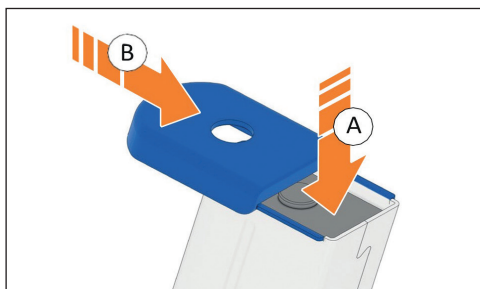

Figure 37 – Insert magazine floor plate
4. Push in magazine locking plate and hold it (A) (Fig. 37).
5. Slide magazine floor plate onto magazine housing (B) from the front until the magazine locking plate engages in the magazine floor plate (Fig. 37). An audible click should be heard.